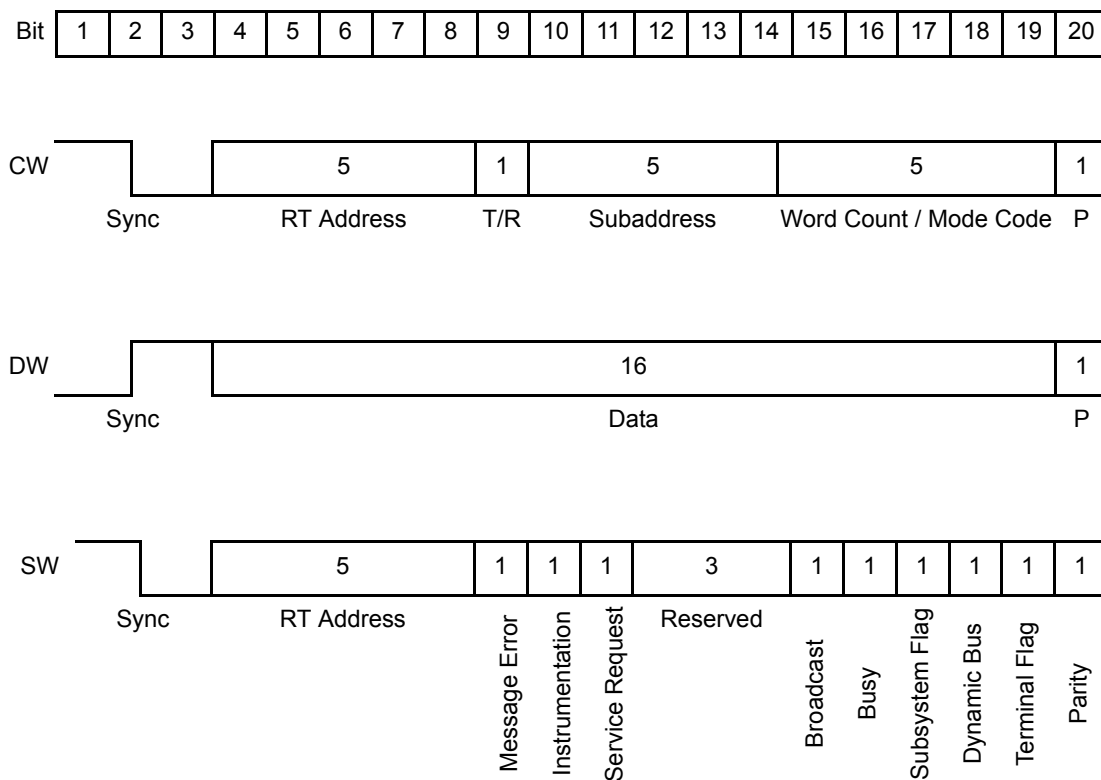

Figure 1-2 • 1553B Word Formats
There are only three types of words in a 1553B message: a command word (CW), a data word (DW), and a status word (SW). Each word consists of a 3-bit sync pattern, 16 bits of data, and a parity bit, providing the 20-bit word (Figure 1-2).